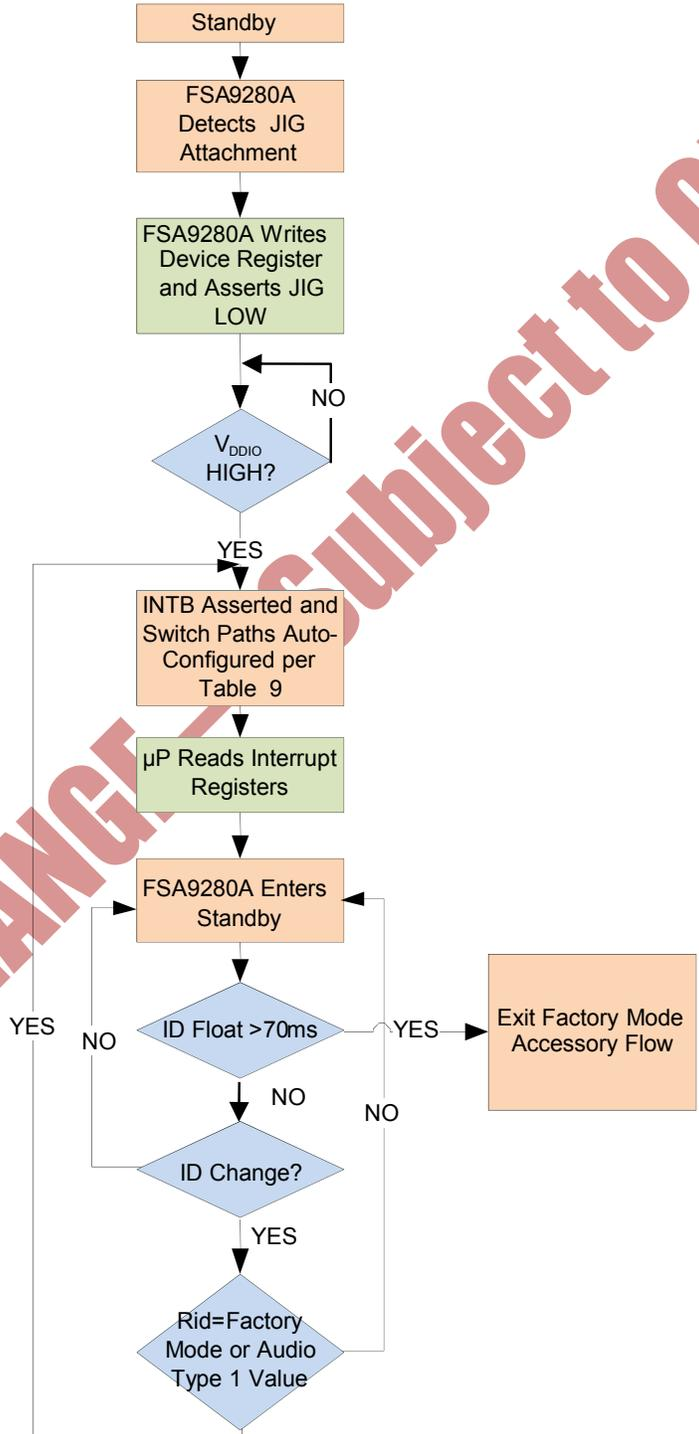

Figure 24. Factory Mode Flow
- 26. Audio-type device configuration is entered as part of the factory-mode flow shown in Figure 24 where the ID\_CON pin is not monitored for key presses and JIG remains LOW until the factory jig box is detached from the phone. MIC is not connected in this audio type case. Figure 24 provides the attach flow diagram for the JIG box accessory. If any of the factory modes is first entered and JIG=LOW; then and only then, can the ID\_CON resistor (1MΩ) dynamically switch to Audio Type 1 accessory without a cable detach. For the latter case, factory-mode Audio Type 1 accessory auto-configures the switches such that: Audio\_L = DM\_CON.